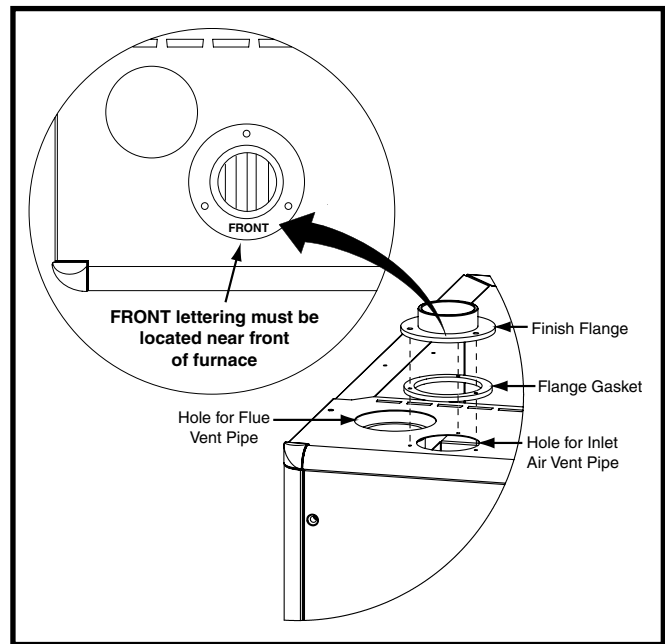

Figure 19. Finish Flange
The finish flange must be installed to vent the combustion air pipe through the top of the furnace. **NOTE:** For proper installation it is important that the pipe and screw holes in the finish flanges, gasket, and cabinet are aligned. See Figure 19.
2. Position finish flange on top of the flange gasket. **NOTE:** Make sure the flange is properly oriented so that the FRONT lettering is located near the front of the furnace as shown in Figure 19.